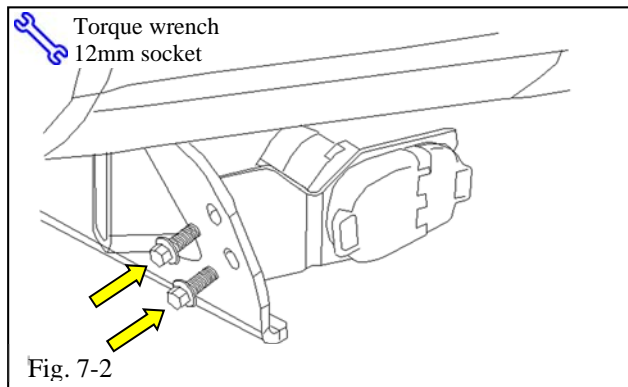

Fig. 7-2
-  (e) Tighten (2) M8 wire harness bracket bolts (Fig. 7-2).